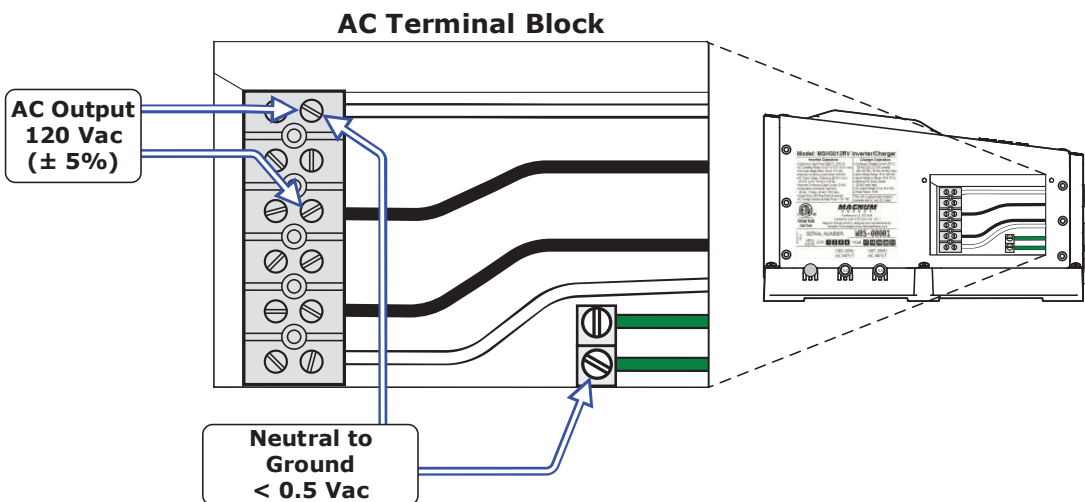

Figure 2-19, AC Voltage Checks
5. Check the AC output voltage of the inverter by connecting an AC voltmeter to the output terminals as shown in Figure 2-19 (verify the correct output voltages).